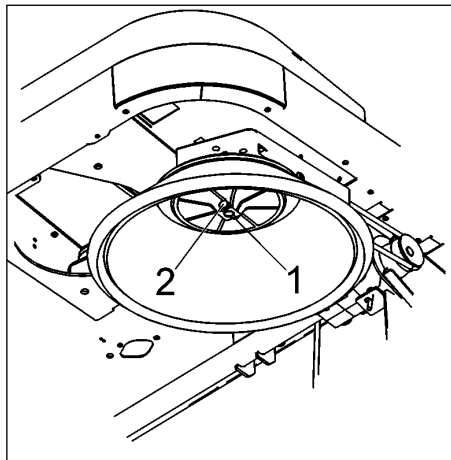

Fig.19
- Loosen hexagonal nut (Fig. 19/1) und remove together with washer
- Remove screw (Fig. 19/2)